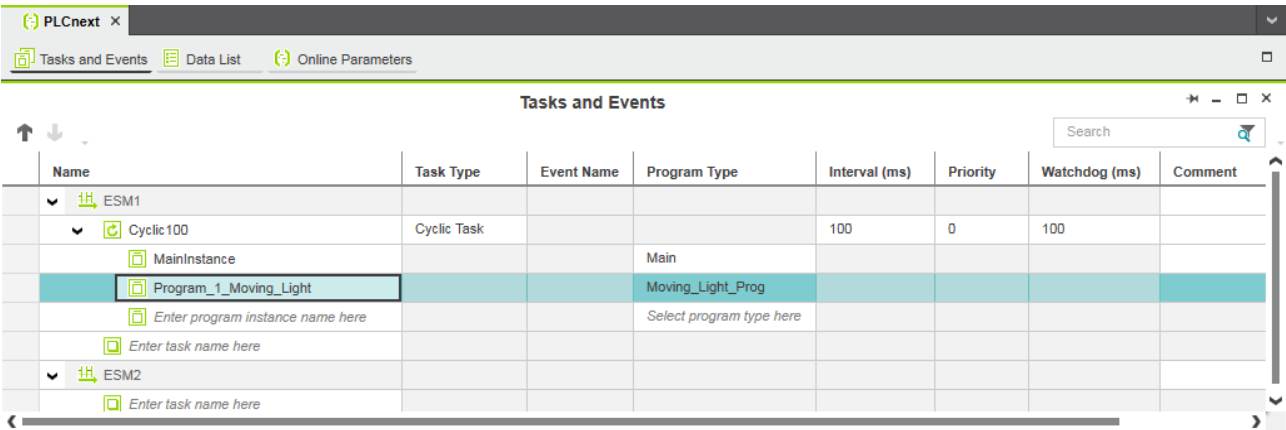

Figure 6-29 Tasks and program instances in the “Tasks and Events” editor
- In the “Name” column, enter a name for the program instance below a task in the “Enter program instance name here” input field (“Program1_Moving_Light” in the example in Figure 6-29).
- Select the program to be instantiated in the drop-down list (“Moving_Light_Prog” in the example in the Figure 6-29).